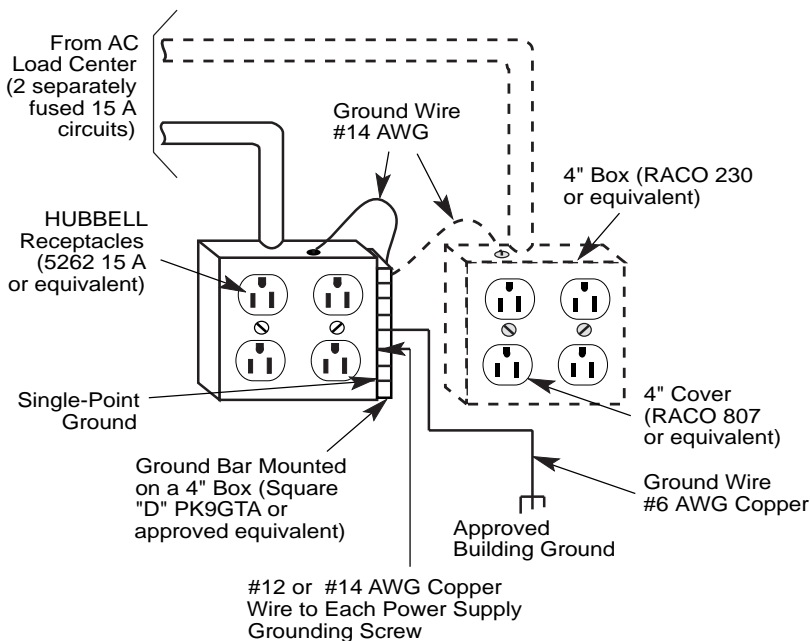
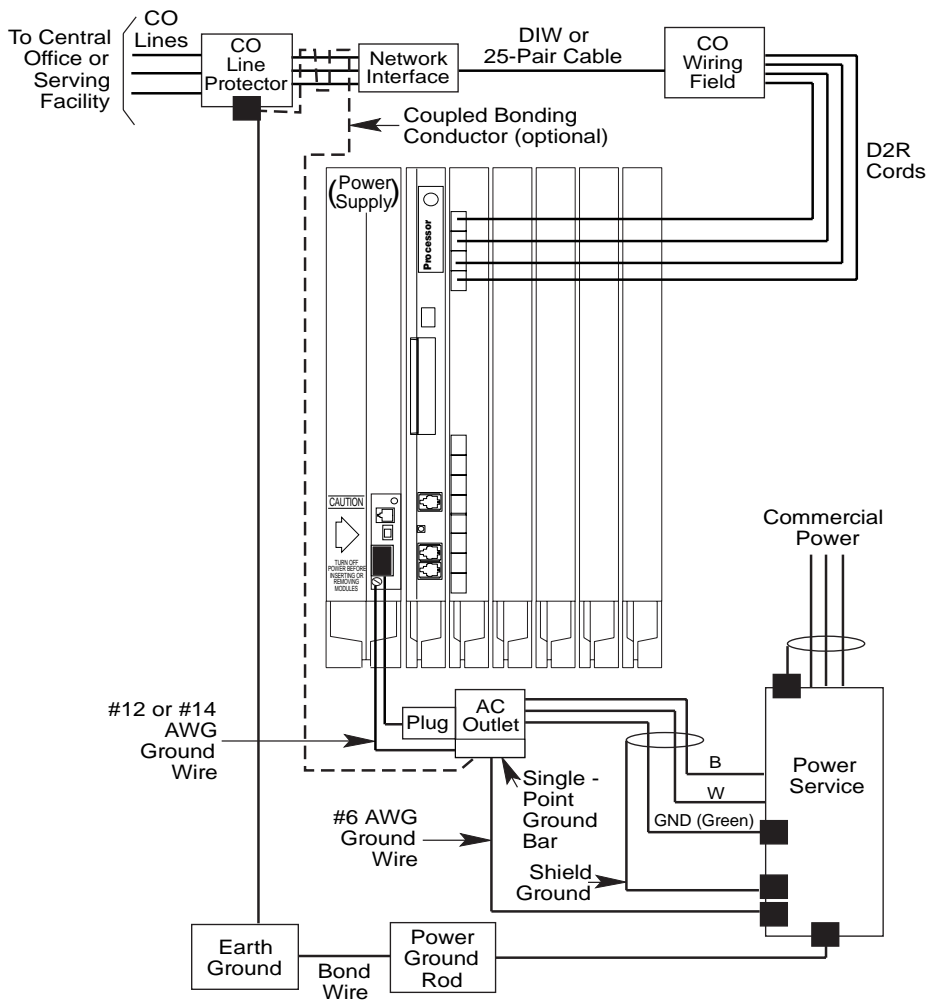

Figure 2-1. AC Grounding Requirements
Figure 2-3. Central Office and AC Grounds
- Because equipment can be located throughout a building, the National Electrical Code requires that the ground point for the central office trunk protector be bonded to the AC power ground as shown in Figure 2-3.
- The AC outlet and the single-point ground bar must be properly grounded as shown in Figure 2-1 and Figure 2-3.
- Each power supply in the control unit must be connected to the single-point ground bar by a #12 AWG or a #14 AWG solid copper wire. Figures 2-1 and 2-3 show this connection.